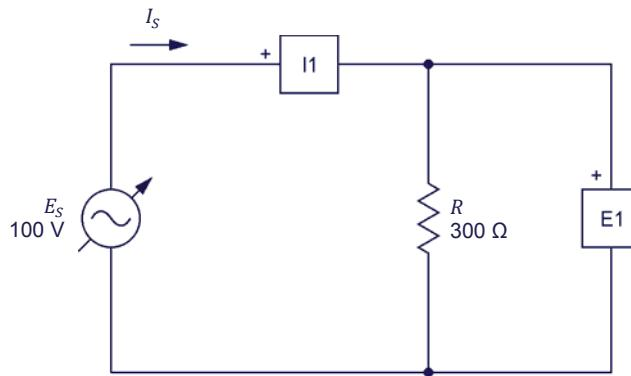

Figure 1-8. AC circuit containing a resistor.
6. Set up the circuit shown in Figure 1-8. Note the symbol used to indicate a variable-voltage ac source in this circuit. In order to obtain the resistance value indicated next to the resistor in Figure 1-8, make the necessary switch settings on the Resistive Load.